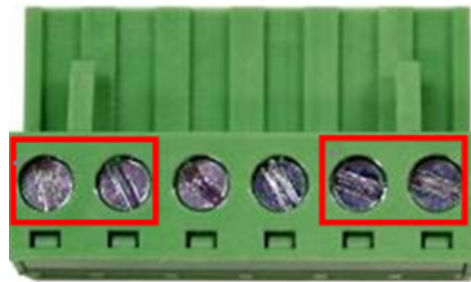

Figure 2.12 - Power Terminal Block
2. Tighten the wire-clamp screws to prevent the wires from loosening, as shown below in *Figure 2.12*.